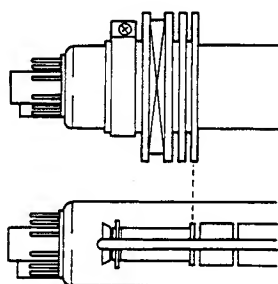

Fig. 1-2
6. Set the neck assembly in the position shown in Fig. 1-2.